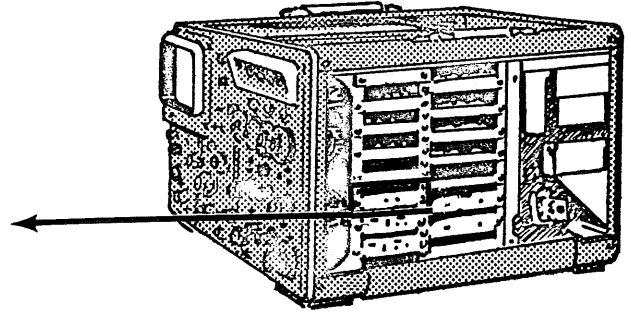

Figure 2-14
4. Set the B 0% Zone Width, R25 - See Figure 2-14, full CW. The 0% zone must cover the trace. (The 0% ZONE POSITION control may have to be set CCW to set the left end of the 0% zone into the dead zone).